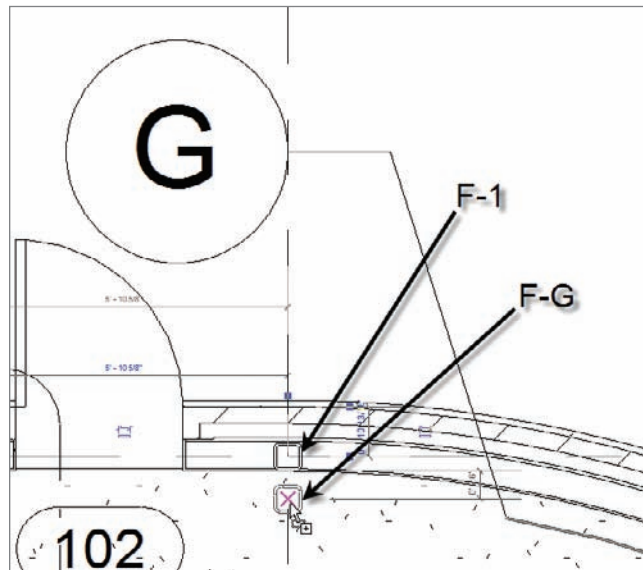

FIGURE 8.25 Placing the two additional columns
15. Place another column at grid intersection F-G (see Figure 8.25).